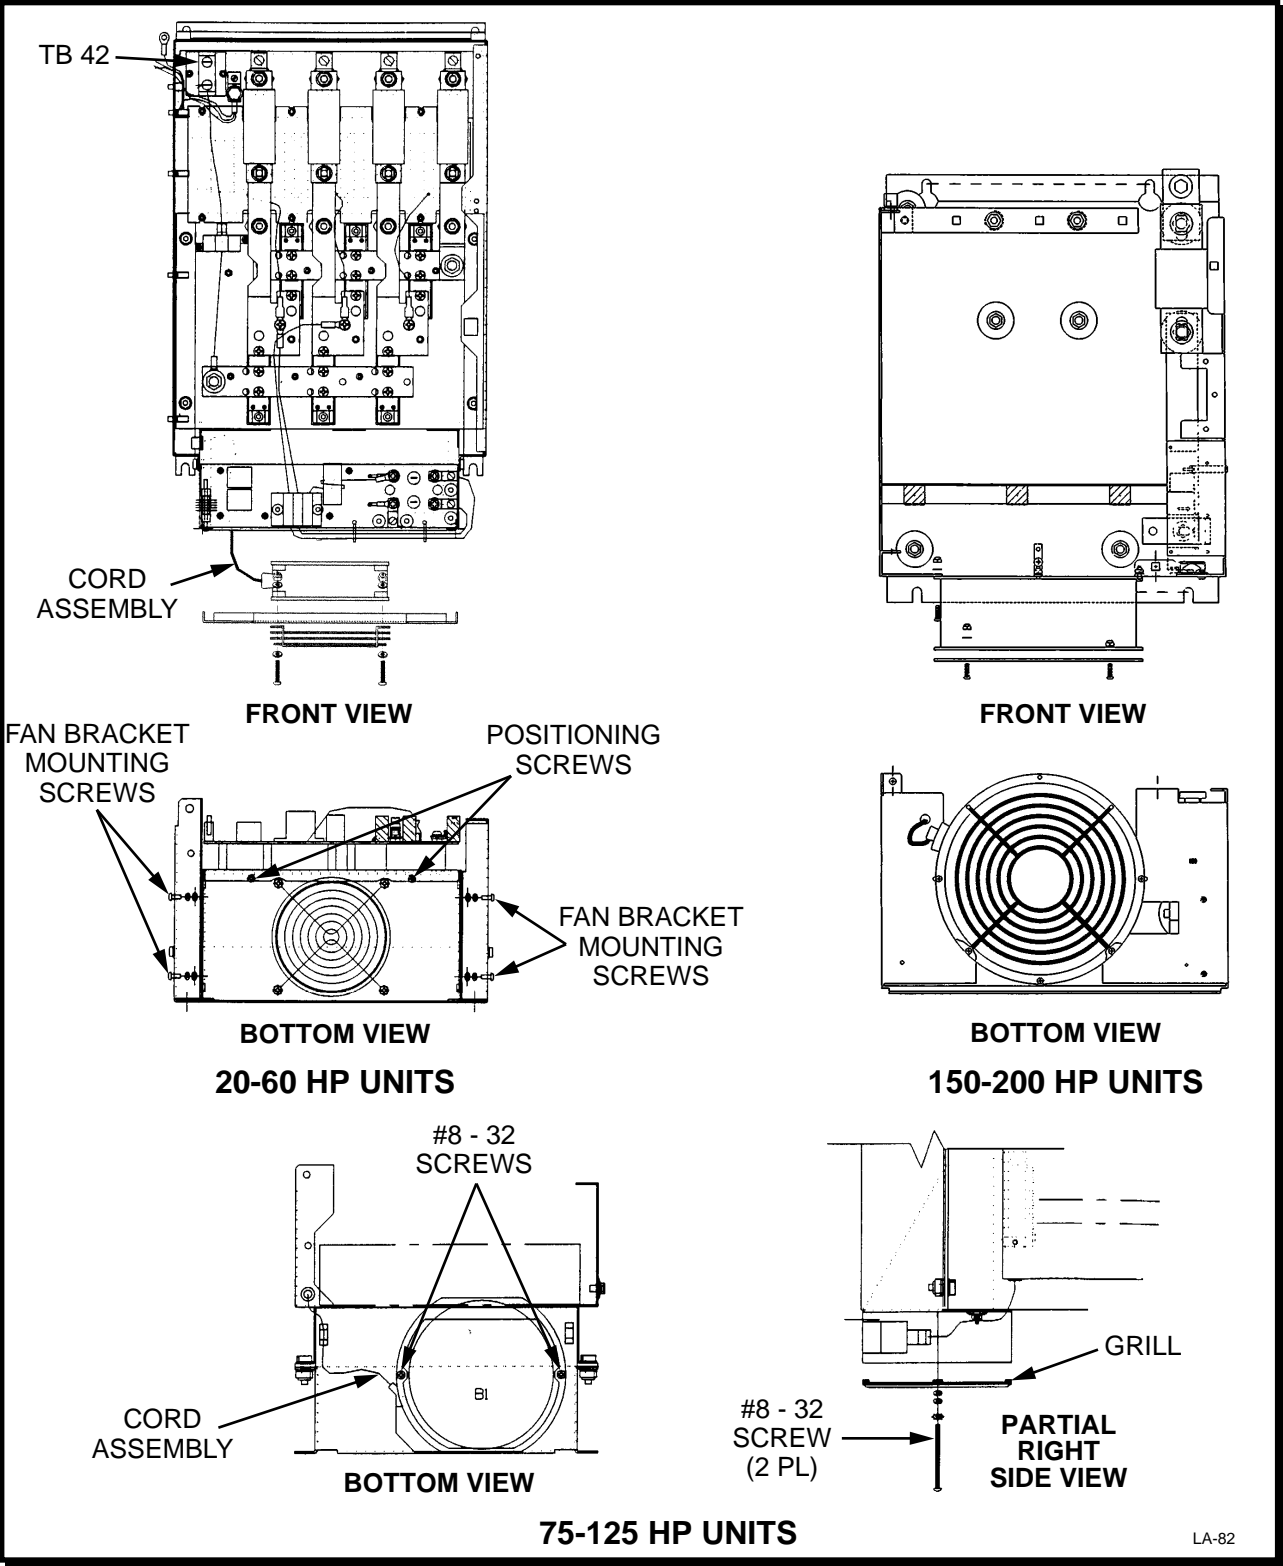

Figure 12. Replacing DSD Fan
- Remove four, #8-32 fan bracket mounting, screws from the DSD chassis as illustrated in Figure 12. Loosen, do not remove, two #8-32 positioning screws from top of fan mounting bracket as illustrated in Figure 12. Fan bracket can be removed from DSD chassis.
- Position fan bracket with the two position screws so the four, #8-32 fan bracket mounting, screws can be fastened. Refer to Figure 12.
- Remove grill and fan by unscrewing two #8-32 screws as illustrated in Figure 12. Be careful when removing fan as cord assembly will be plugged into fan.
- Fit two #8-32 screws, with star washers and split washers, through grill and new fan, as illustrated in Figure 12. Note air flow arrow. Position fan over mounting holes and tighten the screws.